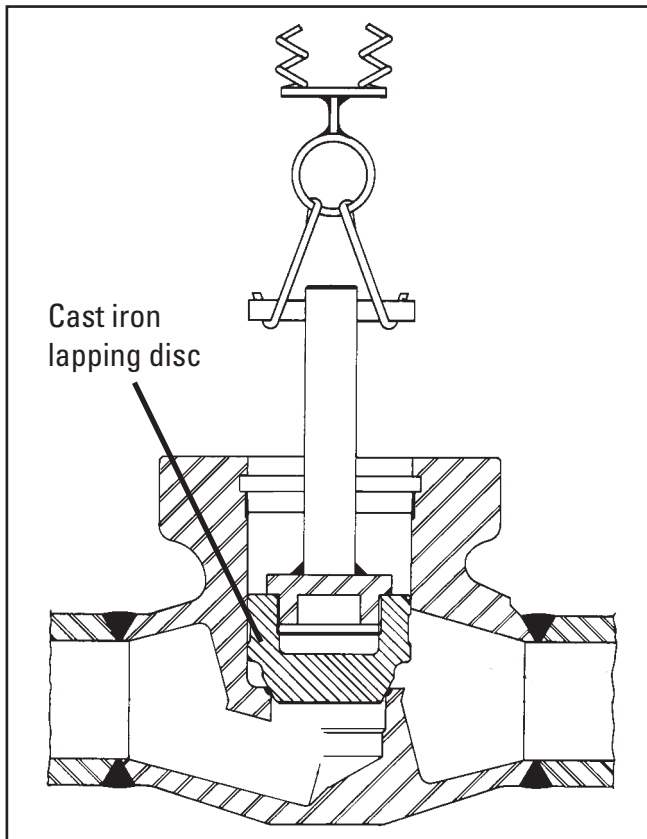

Figure 5.2E Cast iron lapping disc
2. If there are indentations or pitting marks no deeper than 0.005" (0.1 mm), a cast iron lapping disc (Fig. 5.2E) with the proper seat angle must be used with a suitable lapping compound to roughen the surface first with the use of a new or refurbished original disc
5. In order to ensure that the pressure is applied evenly, it is necessary, on some valves, to suspend the disc and stem assembly from a coil spring as shown in Fig. 5.2E.